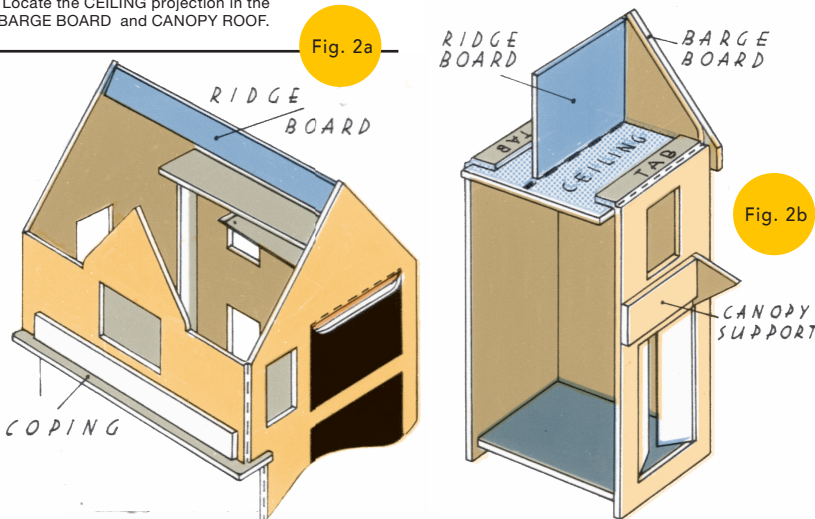

Fig. 2a
- 2** Bend the walls round to their final shape and glue the back corner joint, flush at the bottom, noting that the BACK WALL overlaps the SIDE WALL edge. Run glue along the remaining FLOOR side where it now lies on its TAB. Complete this part of the model by gluing the LOWER FRONT WALL joint, the front overlapping the side as before. Add the COPING, thus filling the gap where the upper half of the front wall overhangs the lower half. With the model placed on its side, take the RIDGE BOARD, bend to an angle along the scored line and glue it to span the two side walls, set inside and just below the points of the pitched sides (Fig. 2a).